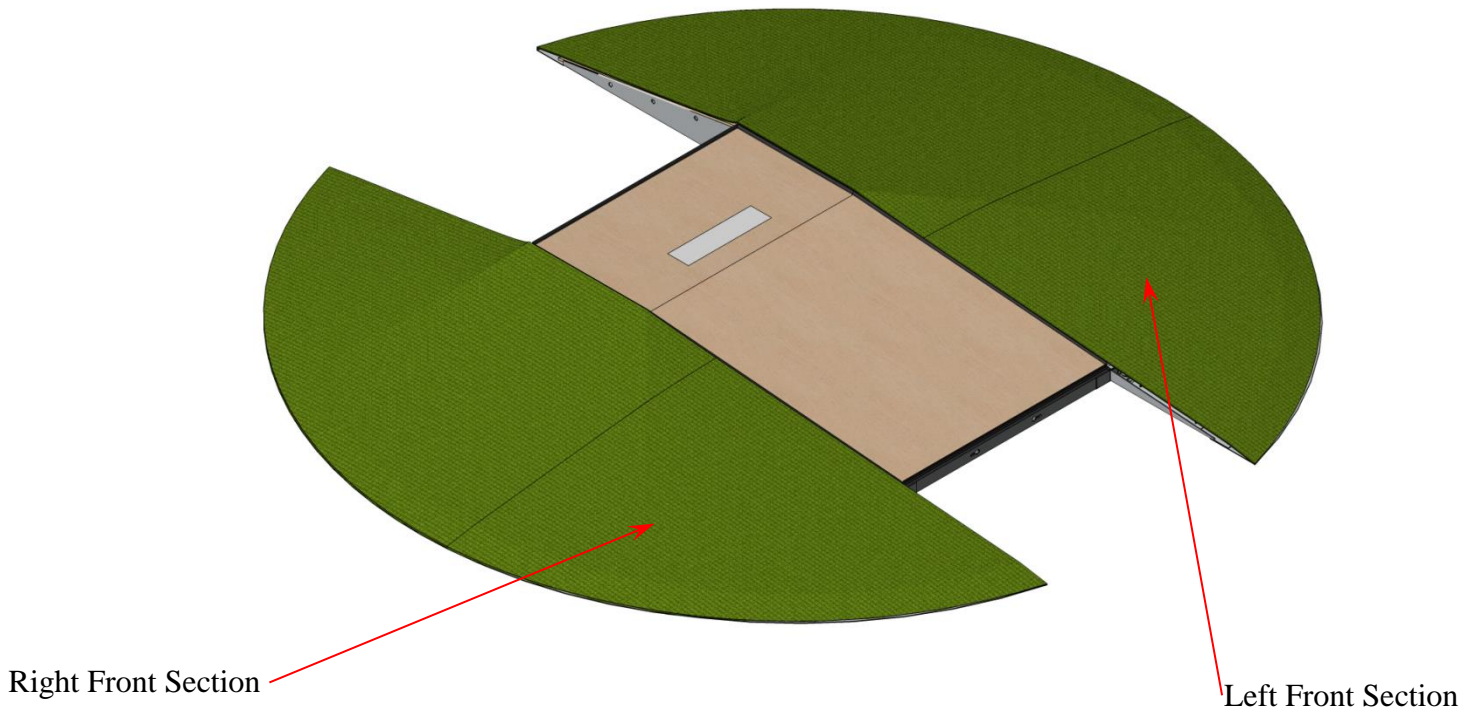

Figure 4
3. Position both the Left Front and Right Front Sections per *figure 4*. Tweak components until seams blend.